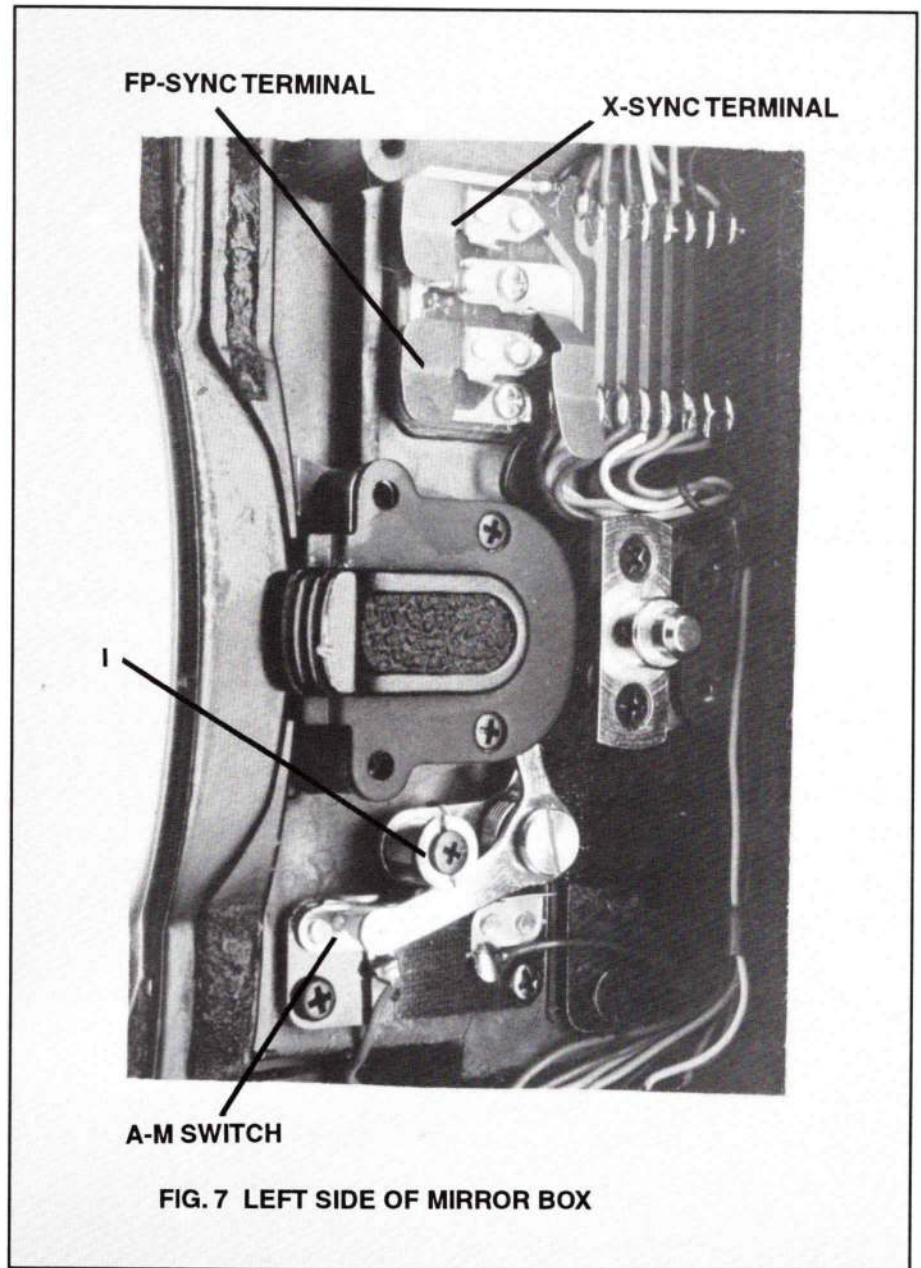

FIG. 7 LEFT SIDE OF MIRROR BOX
3. **A-M switch.** Set a vernier or depth micrometer to 1.2mm. Use the vernier to push in the A-M switching pin, Fig. 1. The A-M switch, Fig. 7, should close. Adjust with I, Fig. 7.